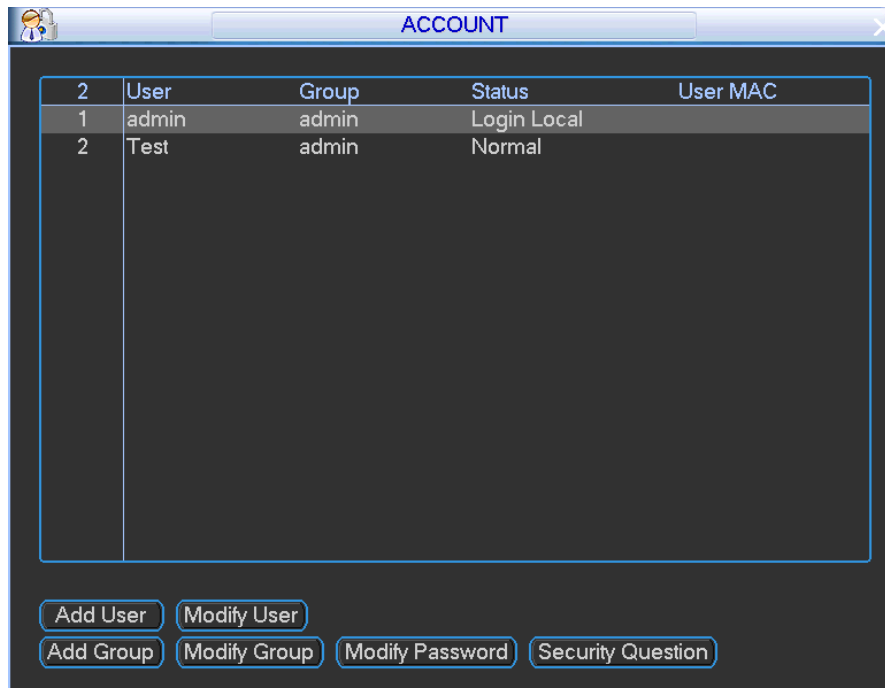

Figure 4-85
Enter Account interface. See Figure 4-85.
Step 2 Click Add user button in Figure 4-85.